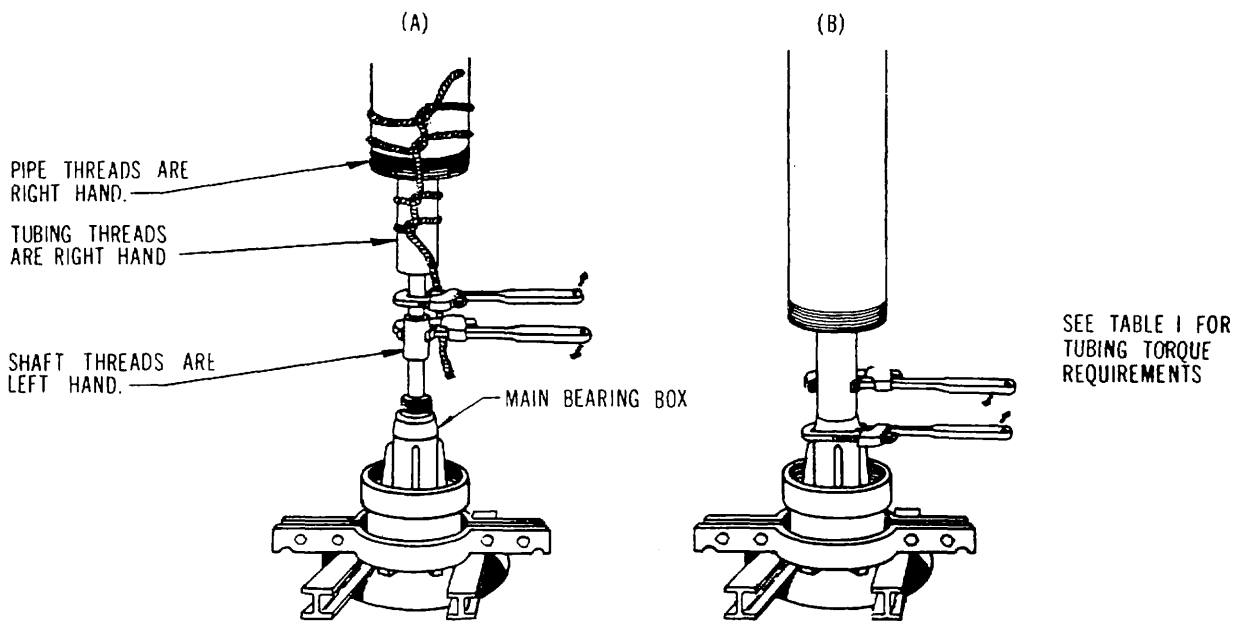

FIG. 14 - ASSEMBLING SHAFT AND TUBING ON ENCLOSED LINESHAFT COLUMN
5. Make up the shaft joint as described in Section D.5. See Fig. 14-A.
6. Lower the assembly until the tubing contacts the main bearing box (lineshaft bearing on subsequent sections) and then remove the rope. Apply a small amount of Laynecote thread compound to the outside diameter of the exposed bearing threads. Place one pipe wrench on the main bearing box shoulder (place wrench on lower piece of tubing on succeeding column joints) and the second wrench on the tubing and tighten firmly. See Fig. 14 B. Table 1 gives the torque requirements for assembling tubing joints. If the tubing is coated with any special application, any touch up required resulting from using the pipe wrench should be done now.